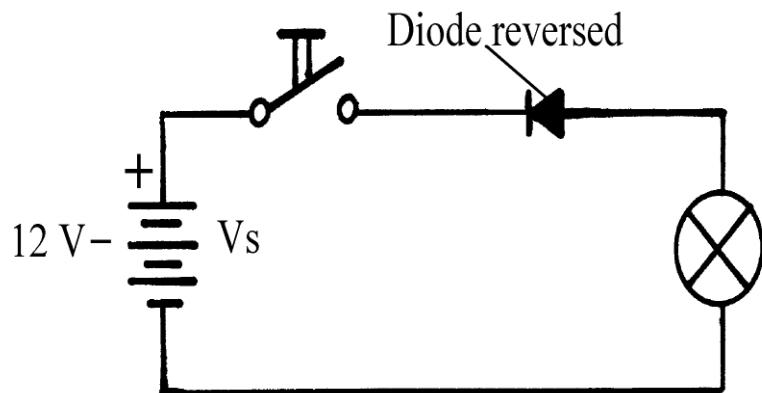
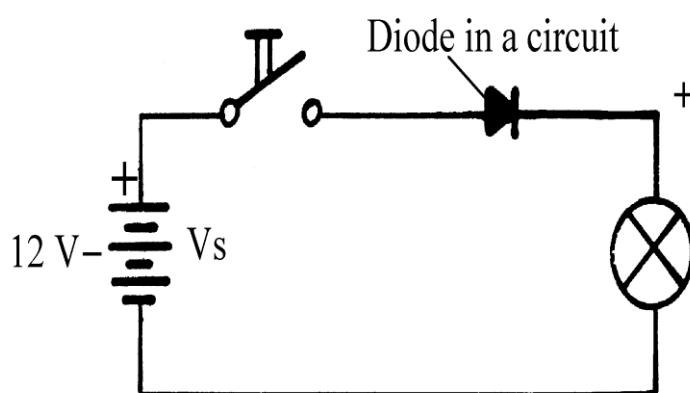

Figure 5
Figure 4
- Construct the circuit as shown in Fig. 4.
- Remove the diode from the circuit and reconnect it the other way around as shown in Fig. 5.
From Experiment 1, Fig. 4 it was seen that if the POSITIVE of the supply is connected to the ANODE of the diode, it will conduct and the diode is said to be forward biased. Similarly, if the NEGATIVE of the supply is connected to the CATHODE of the diode, it will also be forward biased as shown in Fig. 5.